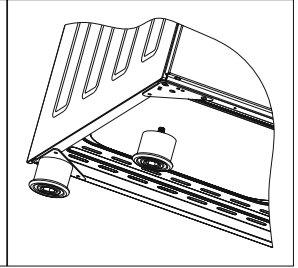

Figure 12
3.If your oven has plastic food as in (Figure 12) you can adjust your ovens height from these feet as turned clockwise or anticlockwise.